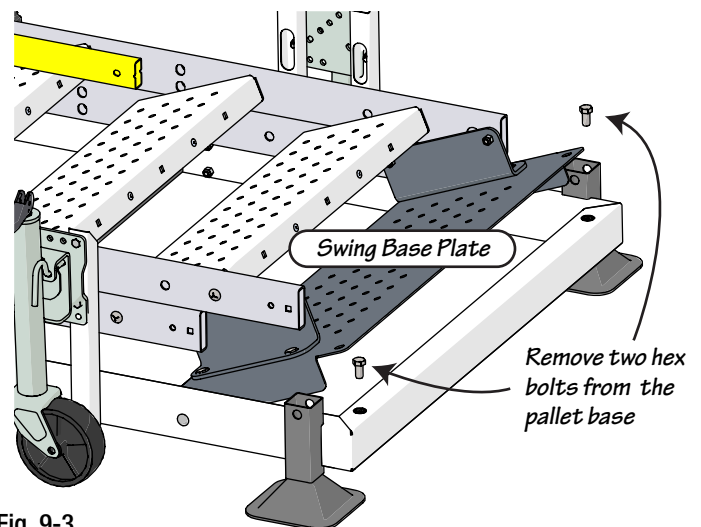

Fig. 9-3
- Temporarily remove the two hex bolts located on the step access end of the transport pallet. As shown in Fig 9-3.